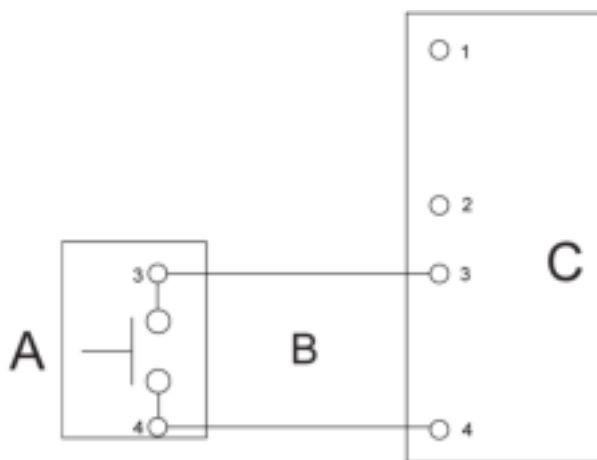
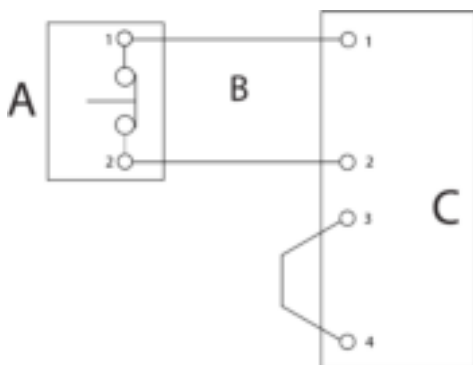

Figure 29. Normally-open remote EPO switch wiring
Figure 30. Normally-closed remote EPO switch wiring
This procedure is intended for installing the Eaton-supplied remote EPO switch. If you are installing another manufacturer's switch, use this procedure, and Figure 29 and Figure 30 as a guide.
5. Connect the wiring as shown in Table 17 and Figure 29 for a normally-open remote EPO or Table 18 and Figure 30 for a normally-closed remote EPO.